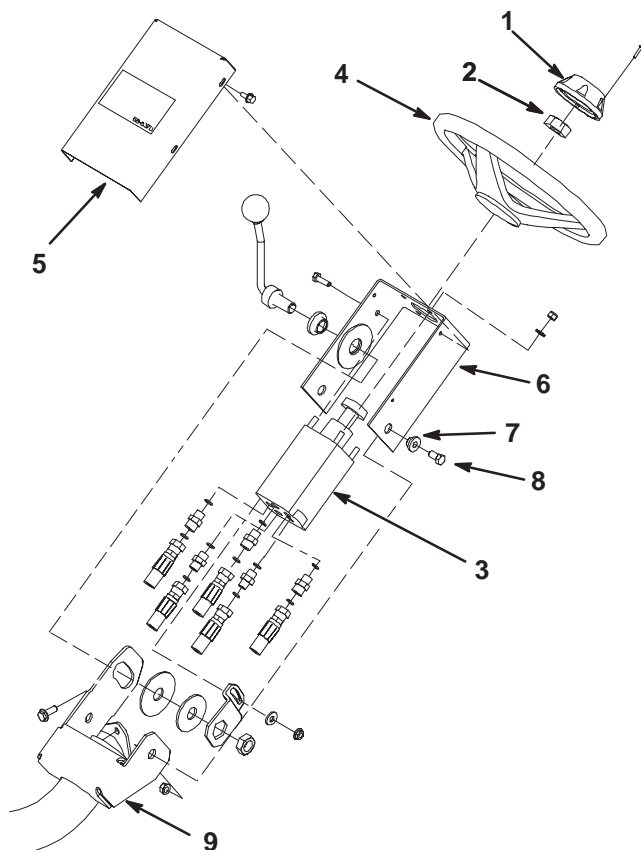

Figure 1
12. Mount the tilt steering lever, boss, friction discs, flat washer, tilt bracket and jam nut to the steering arm and steering valve bracket. Make sure the components are assembled as shown in figure 1.
14. Secure the steering control valve to the steering control valve bracket with (4) screws.